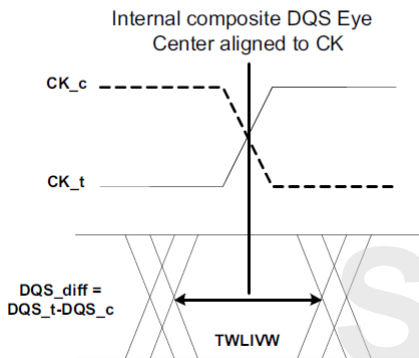

Figure 25.  $DQS\_t/DQS\_c$  to  $CK\_t/CK\_c$  timings at the DRAM pins referenced from the internal latch
28)  $t_{WLIWV}$  is defined in a similar manner to  $tdIVW\_Total$ , except that here it is a DQS input valid window with respect to CK. This would need to account for all VT (voltage and temperature) drift terms between CK and DQS within the DRAM that affect the write-leveling input valid window. The DQS input mask for timing with respect to CK is shown in Figure 25. The "total" mask ( $t_{WLIWV}$ ) defines the time the input signal must not encroach in order for the DQS input to be successfully captured by CK with a BER of lower than  $t_{bd}$ . The mask is a receiver property and it is not the valid data-eye.